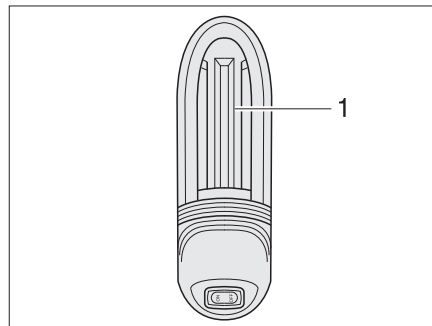

Fig. 369 Garage light
- Push the light covering (Fig. 369,1) up slightly and remove it.